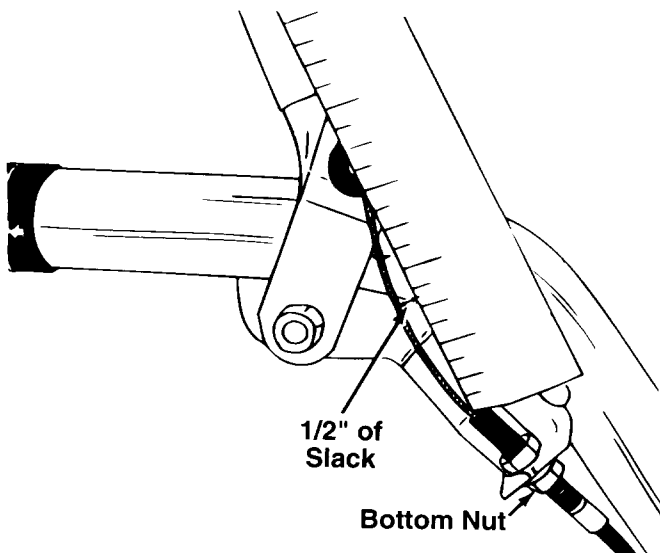

FIGURE 9.
- d. With the clutch lever released (in the "up" position), adjust the bottom nut at the cable bracket so there is 1/2" of slack in the control wire as shown in figure 9. Tighten the upper nut against the bracket. Squeeze the clutch lever against the handle. The control wire should now be straight.